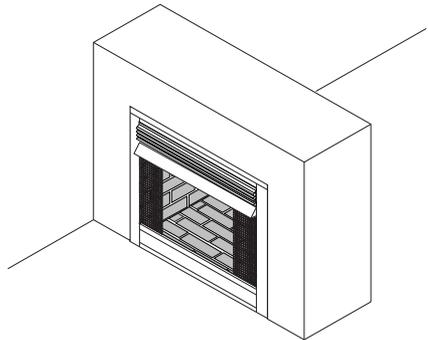

Figure 2 - Projected Installation
**Projected installations** can extend any distance into the room. A projection may be ideal as a partition between two otherwise common areas when added to an existing, finished wall (see Figure 2).